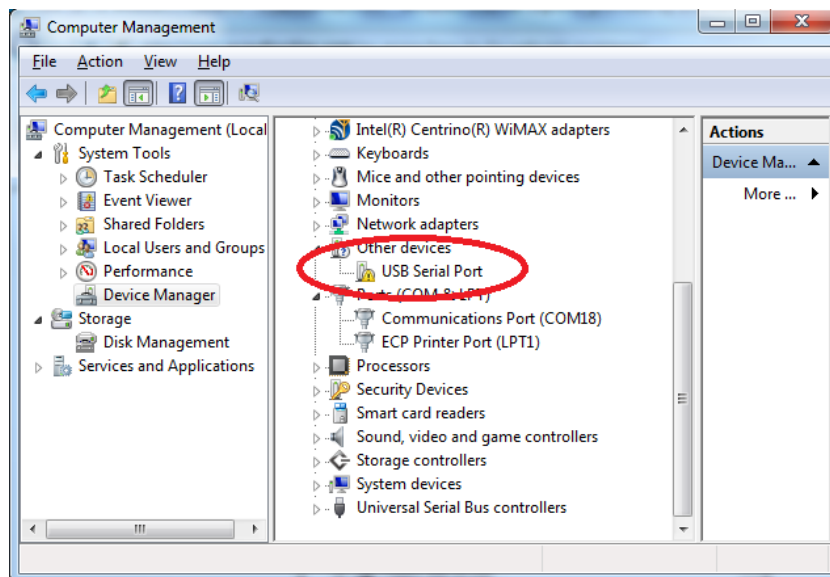

Figure 58 Windows Device Manager
- ☐ Open Windows Device Manager and verify that the camera hardware is detected and installed properly. A yellow exclamation mark indicates a problem Figure 58 shows the camera is not installed properly.